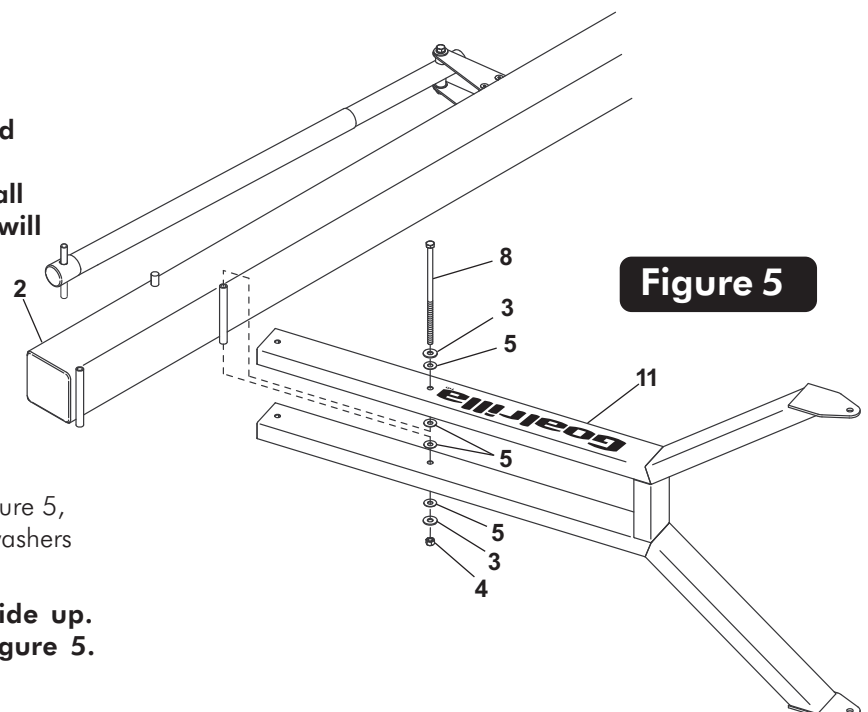

Figure 5
5. Attach lower arm (#11) to Pole (#2), as shown in Figure 5, using a bolt (#8), two flat washers (#3), four plastic washers (#5) and hex nut (#4).
Note: make sure "Goalrilla" lettering is right side up. DO NOT tighten bolt (#8) at this time. See Figure 5.